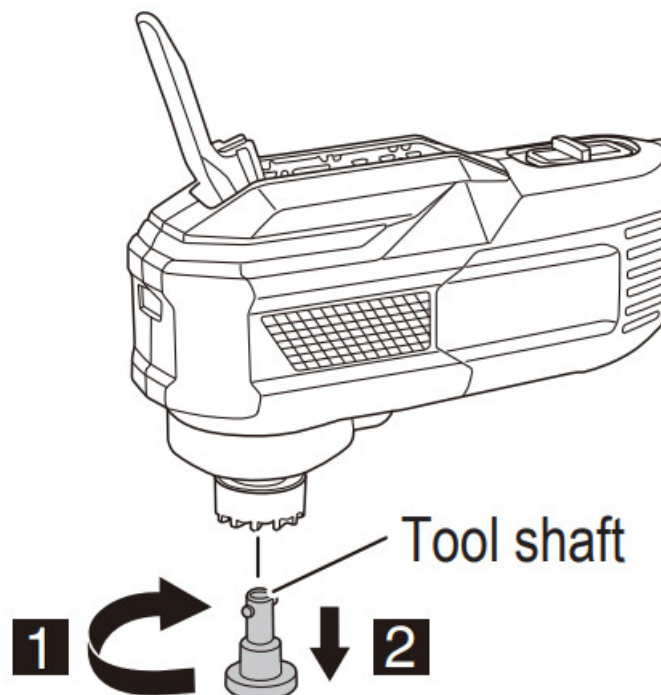

Fig. 9
(2) Pull out the tool shaft while rotating it counterclockwise. (Fig. 9)